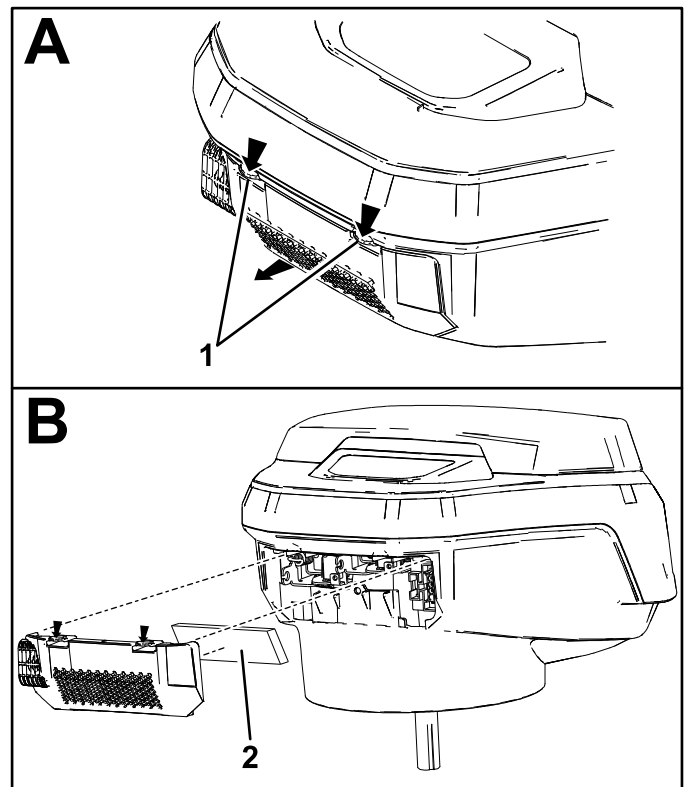

Figure 25
2. Unclip and remove the cover and the foam filter. Clean both thoroughly (Figure 25).